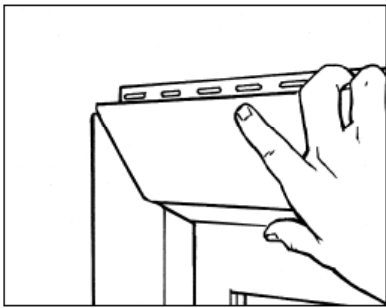

Figure 10
- 5) Install the lineal, sliding down over the side lineals and nailing loosely every 8" to 10". (Figure 10)